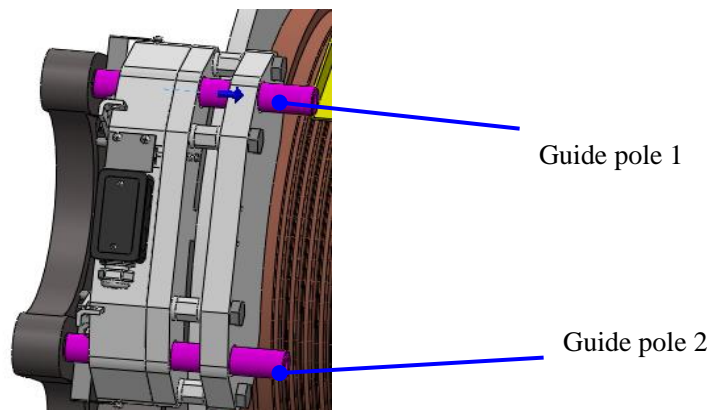

Figure 36: Guide pole removal
3. Remove the Guide pole 1 and Guide pole 2. See Figure 36.